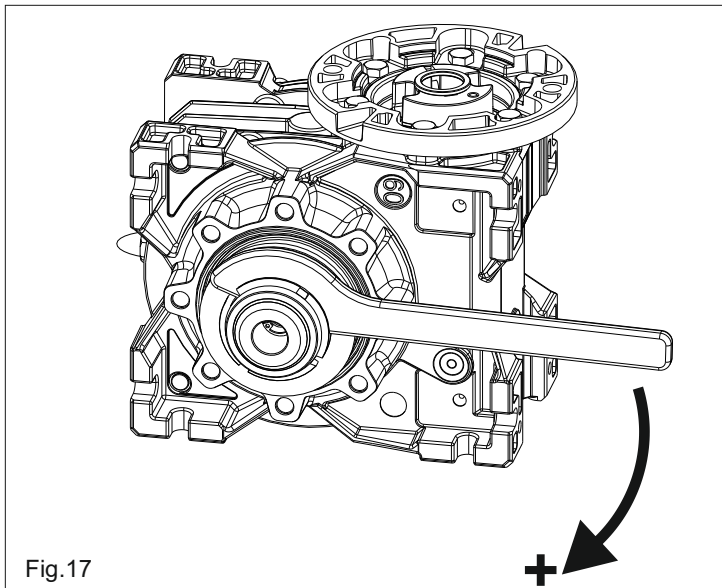

Fig. 17
- To increase torque, turn the key **clockwise** (Fig. 17).